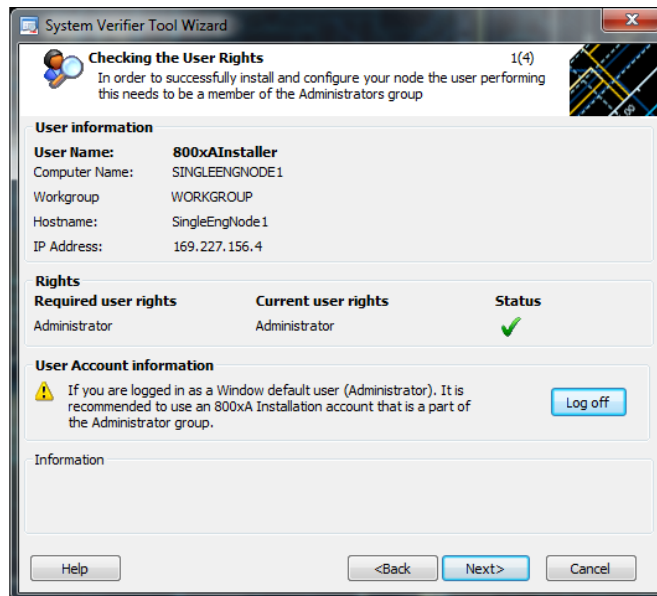

Figure 36. Checking the User Rights Dialog Box
1. Click **Next** to continue to the Checking the User Rights dialog box (Figure 36). In order to successfully install and configure the node, the user performing this procedure needs to be a member of the Administrators Group. If this condition